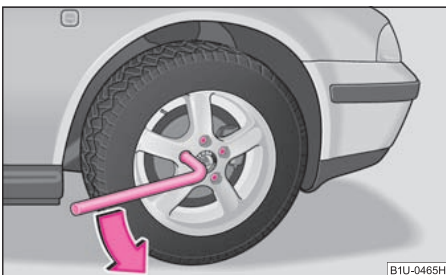

Fig. 169 Changing a wheel: Slackening wheel bolts
- Grasp the end of the wrench\* and turn the bolt about **one** turn to the left ⇒ fig. 169.